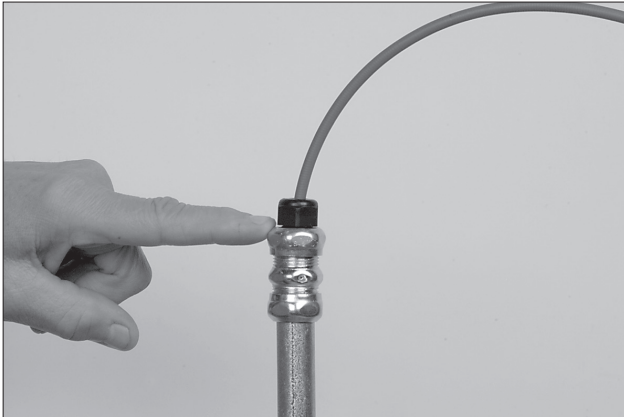

FIGURE 5-96
11. Tighten the nut on the strain relief on top of the conduit riser. See Figure 5-96.